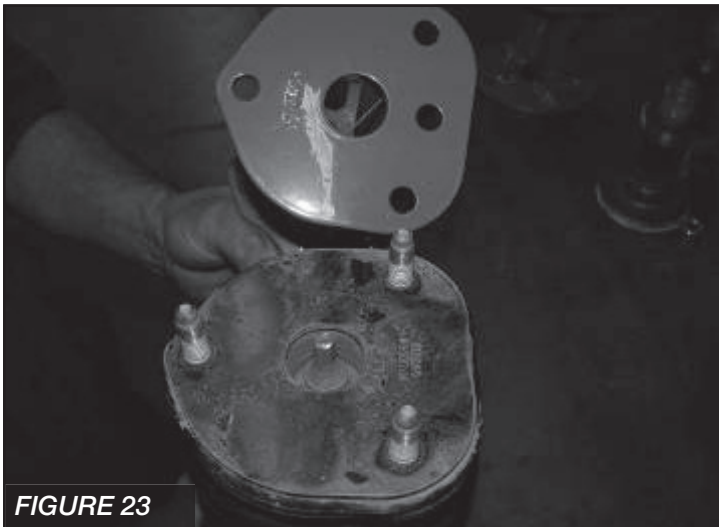

**FIGURE 22**
32. Install the C.V. half shaft back onto the differential by pushing the half shaft onto the splines until the snap ring locks. **SEE FIGURE 22**